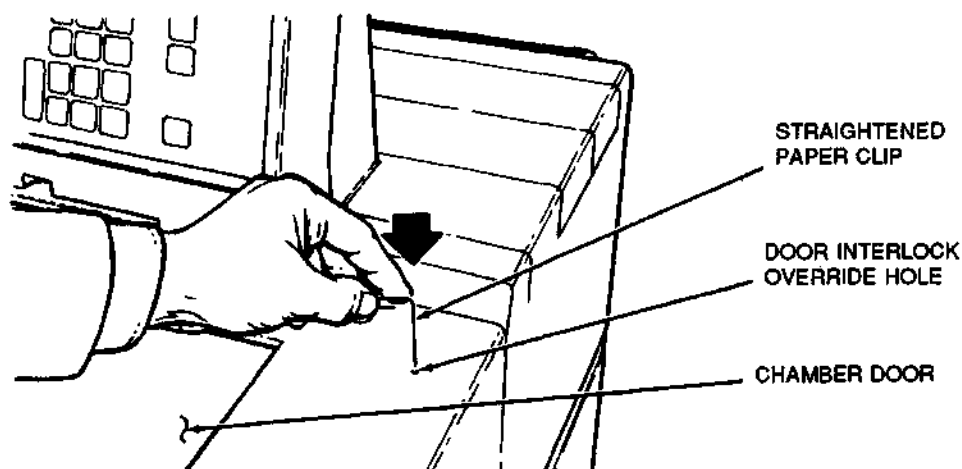

Figure 7-3. Door Interlock Override
Wait until the rotor has coasted to a stop. When the rotor stops, insert a straightened paperclip in the door interlock override hole and push down (figure 7-3). Open chamber door.
5. Insert a straightened paperclip in the door interlock override hole (figure 7-3). Open door.